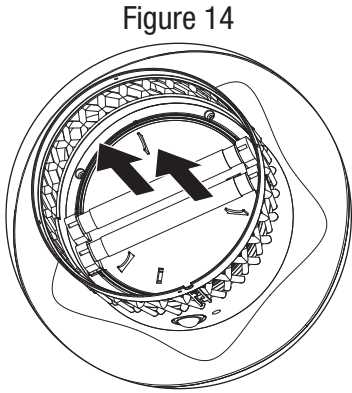

Figure 14
7. Carefully rotate the ultraviolet bulbs to the left or right until they slide out from the bulb supports (Figure 14) and dispose of properly.